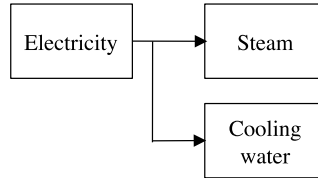

Figure 1 Utility dependence flowchart.
3. A utility dependence flowchart for the concerned utilities is shown in Figure 1.